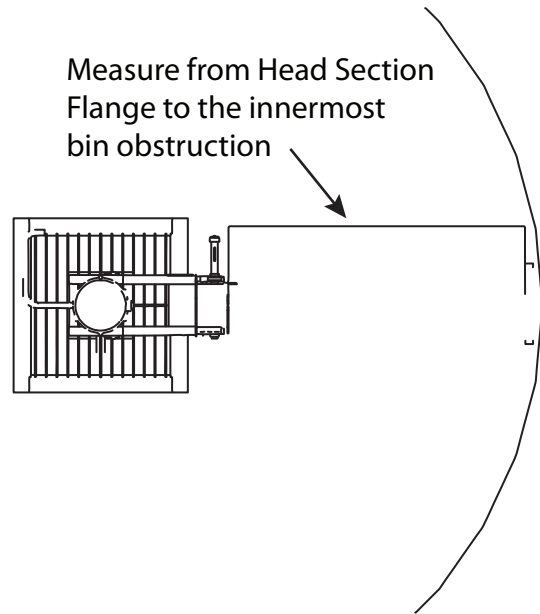

Figure 4-11: Bin Obstruction
2. Rotate the Head Section so that it is facing the innermost obstruction inside the bin. See Figure 4-11.